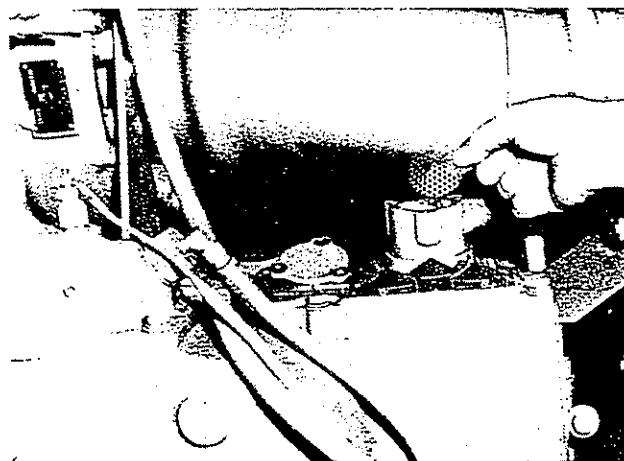

Fig. 2-25, (N11934). Crankcase breather — screen type
2. Remove capscrews, washers, cover, screens and baffle if used, from the breather body. Fig. 2-25.